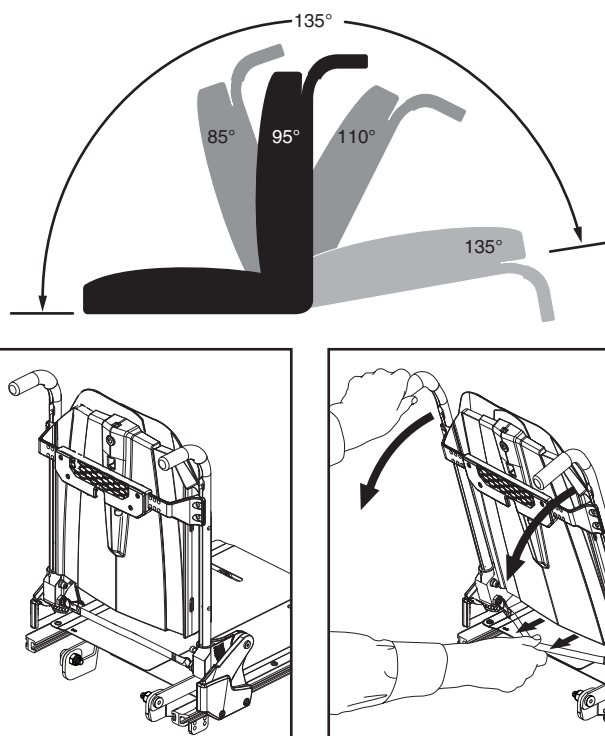

Figure 14. Angle Adjustable—Minimum and Maximum Recline Angles
If your TB-Flex Seat is equipped with the Angle Adjustable Option, you can adjust the seatback to angles ranging from the minimum recline position (85° from the seat base) to the maximum recline position (135° from the seat base). **See figure 14.** When the seat is reclined past 110°, the chair will be in full inhibit. Returning the seat to an angle of less than 110° will restore power to the motors.
2. Pull the strap to release the seatback, and position the seatback to the desired angle. **See figure 14.**